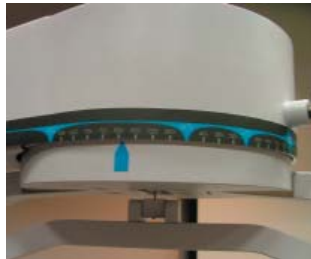

Figure 6-57. Halo Rotation of 25° Lateral
Step 8. Unlock the rotation pin, which is located at the top middle of the halo. If you're testing the patient's left side, rotate the halo 65 degrees toward the right, and then lock the rotation pin. Rotate the halo 65 degrees toward the left when testing the patient's right side (Figure 6-57). Note that the figures show a set-up for testing the patient's right side.